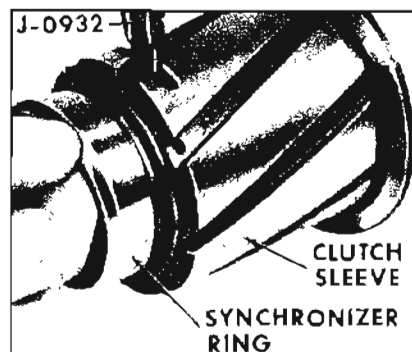

Figure 4-22—Removing Synchronizing Rings
3. Using Tool J-0932, expand the retainer into the counterbore in the clutch sleeve. This raises the retainer from the groove in the ring so that the ring may be easily slipped out. See Figure 4-22.